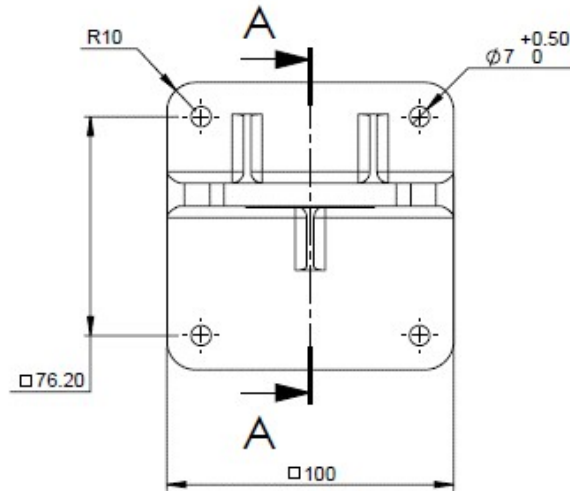

Figure 1- Tile Mount Base - Rear View
- a) Place the tilt mount (Fig. 1) in its designated location and secure it with four screws through four 0.28" (7mm) diameter holes. There are four captive screws with spring washers in the tilt mount. The following drawing shows the location of the four holes for the screws and washers.